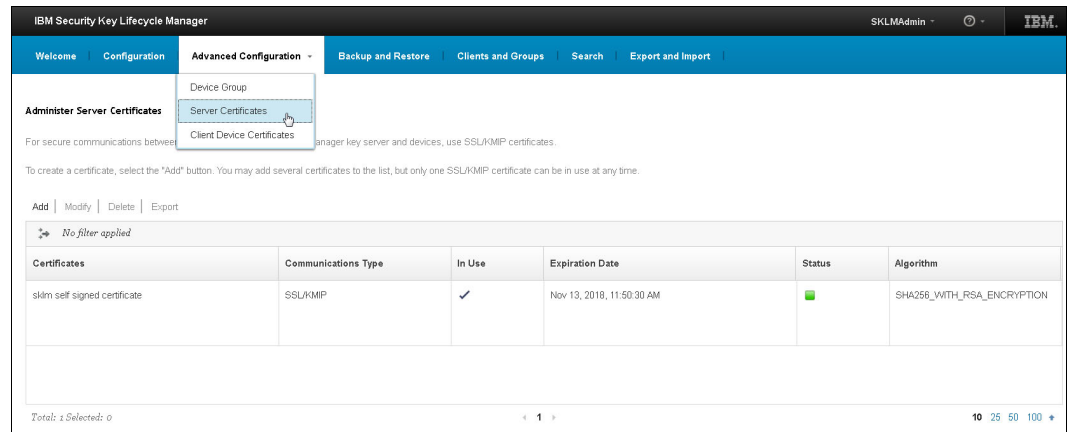

Figure 7-42 SKLM Server Certificate view
5. Click **Advanced Configuration** → **Server Certificates**. During the initial setup process of SKLM, a self-signed certificate was created by the SKLM administrator (see Figure 7-42).